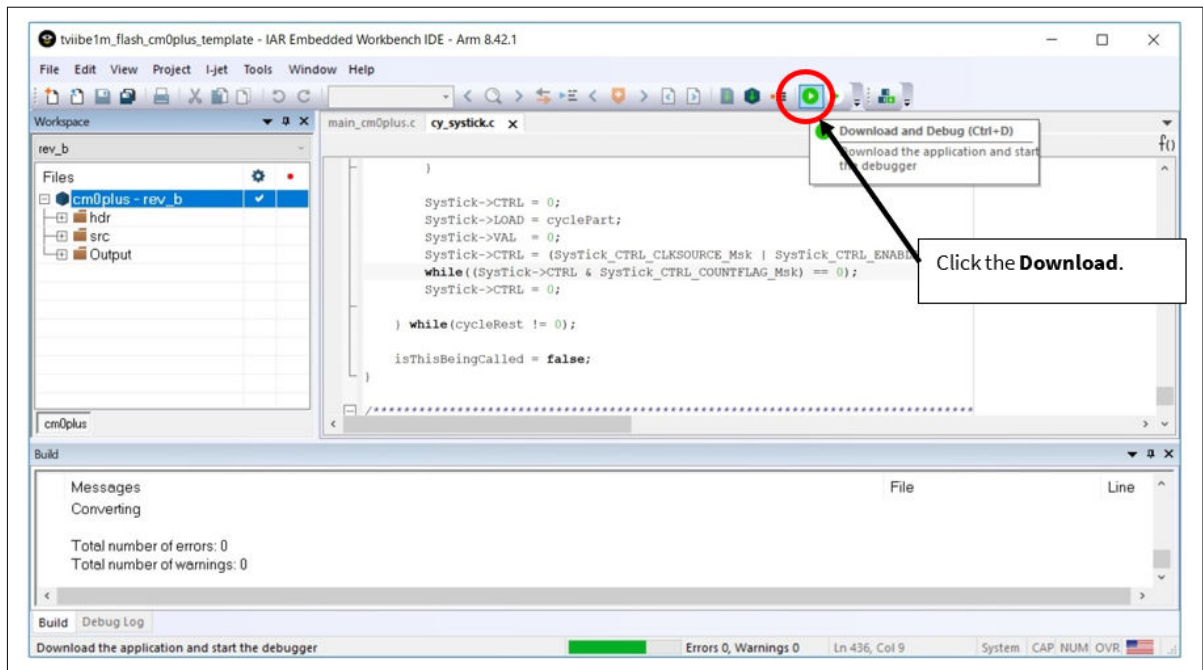

Figure 29 Debug the project of SDL project
When these operations are performed, both CM0+ programs will be in the program running state and debugging will be possible as shown in Figure 29. The board LED starts blinking.
- To load the program to the Flash memory, click the **Download** icon as shown in Figure 29.